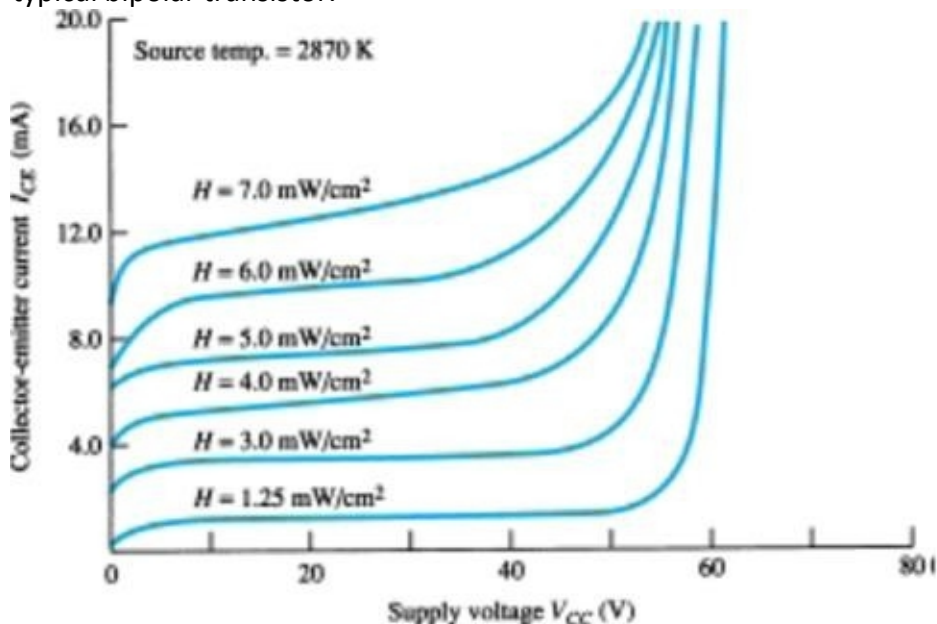

Figure-28 Phototransistor: collector characteristics (MRD300) and symbol. (Courtesy Motorola, Inc.)
- A representative set of characteristics for a phototransistor is provided in Figure-28 with the symbolic representation of the device. Note the similarities between these curves and those of a typical bipolar transistor.